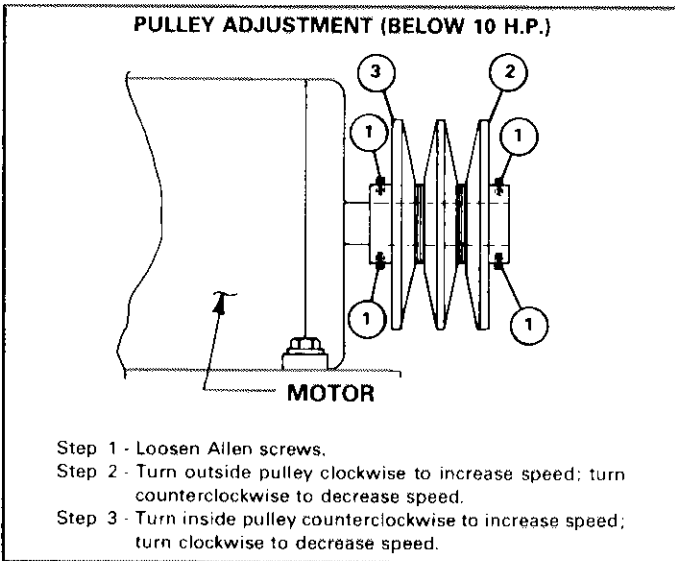

FIGURE 100
- 2 - On adjustments greater than 70 RPM's, either adjust sheave as shown in Figure100(below 10 HP) or change sheaves (10 HP and above). On adjustments less than 70 RPM's, use the inverter adjustment to lower the RPM's.